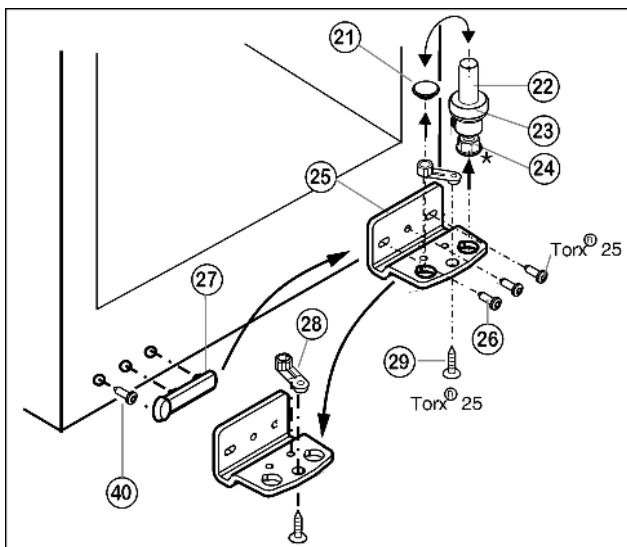

Fig. 5
- ▶ Lift out the bearing pin Fig. 5 (22) together with washer Fig. 5 (23) and adjustable-height foot\* Fig. 5 (24).
- ▶ Lift off the stopper Fig. 5 (21).
- ▶ Unscrew Fig. 5 (26) the turn hinge Fig. 5 (25).
- ▶ Unscrew Fig. 5 (29) the bearing element Fig. 5 (28), transfer it to the opposite location hole of the turn hinge and screw it firmly into place.
- ▶ Carefully lift off the cover on the handle side Fig. 5 (27), undo the screw Fig. 5 (40) and transfer both to the opposite side.
- ▶ Screw the turn hinge Fig. 5 (25) firmly into place on the new hinge side, possibly using a cordless screwdriver (with 4 Nm).
- ▶ Re-insert the stopper Fig. 5 (21) into the other hole.
- ▶ Re-insert the bearing pin Fig. 5 (22) together with the washer and adjustable-height foot\*. In so doing, pay attention that the locating lug points backwards
- ▶ Place the door from above onto the lower bearing pin Fig. 5 (22).
- ▶ Align the door to the appliance housing by way of the two oblong holes in the bottom turn hinge Fig. 5 (25). To do so, unscrew the middle screw.